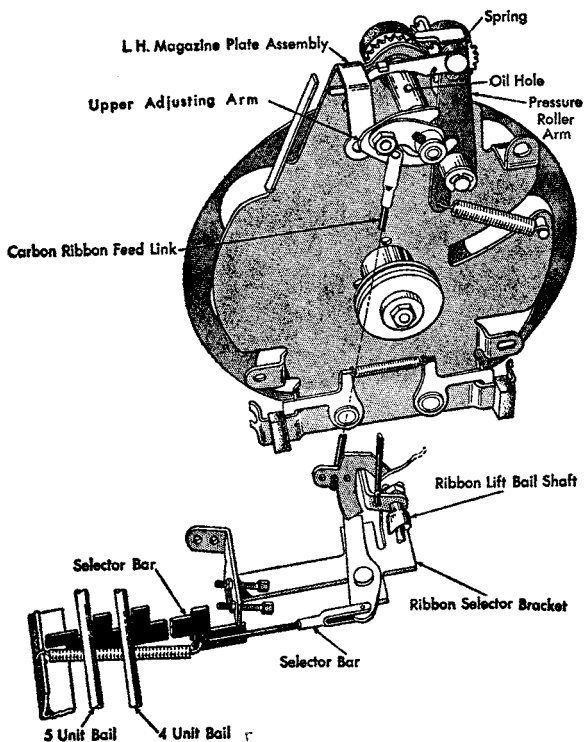

Figure 44. Carbon Ribbon Mechanism
9. SELECTOR BAR LINK. Adjust so that the lower ribbon feed arm will drop off the selector lever when a 4 or 5-unit typebar has completed one-third to one-half of its travel toward the platen (Figure 44).
10. FIVE-UNIT FEED. Adjust by means of the upper adjusting arm. Moving the arm toward the shaft will increase the amount of feed, and away from the shaft will decrease the amount of feed (Figure 44).
11 THREE-UNIT FEED. Adjust by varying the position of the ribbon selector bracket up or down. Lowering the bracket will increase the amount of feed, while raising it will decrease the feed. Recheck the five-unit adjustment and selector bar link adjustment, and change if necessary (Figure 44).